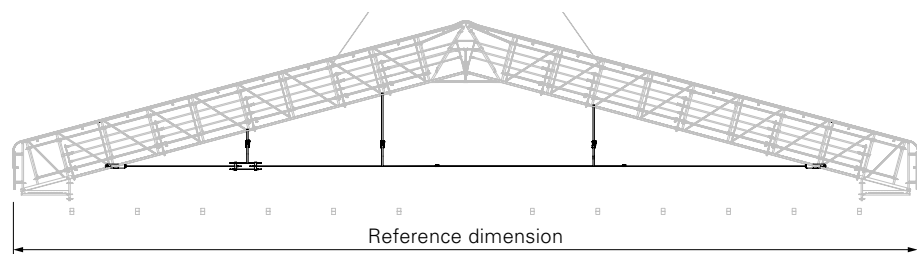

Fig. A8.06
- Check reference dimension and adjust if necessary. (Fig. A8.06)